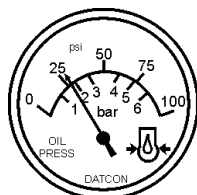

Figure 46. Oil Pressure Gauge
10. The engine oil pressure gauge (Figure 46) will indicate the oil pressure (kg/ cm²) of the engine. Under normal operating conditions the oil pressure is approximately 25 psi.